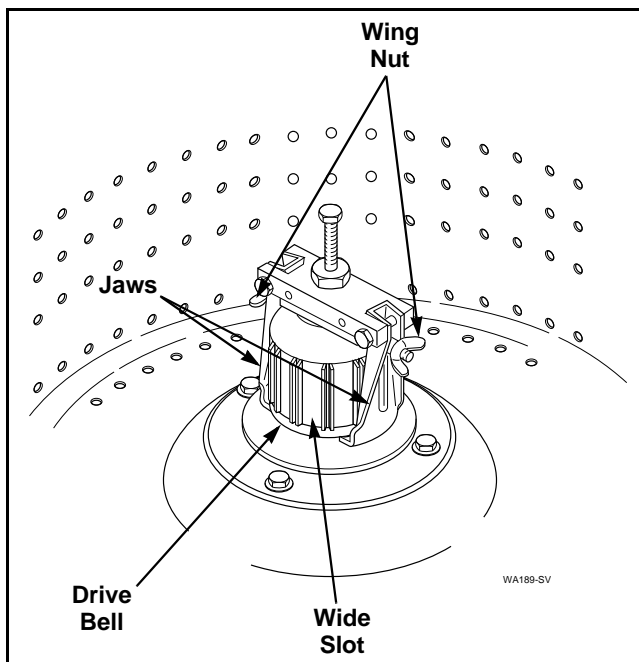

Figure 15
- f. Place tool over the bell, making sure indent on jaw lines up with wide slots on the bell. Refer to *Figure 15*.
- h. Place lip of each jaw under bottom edge of drive bell, making sure indent on jaw lines up with wide slots on bell. Then tighten the two wing nuts to hold jaws firmly against drive bell. Refer to *Figure 15*.